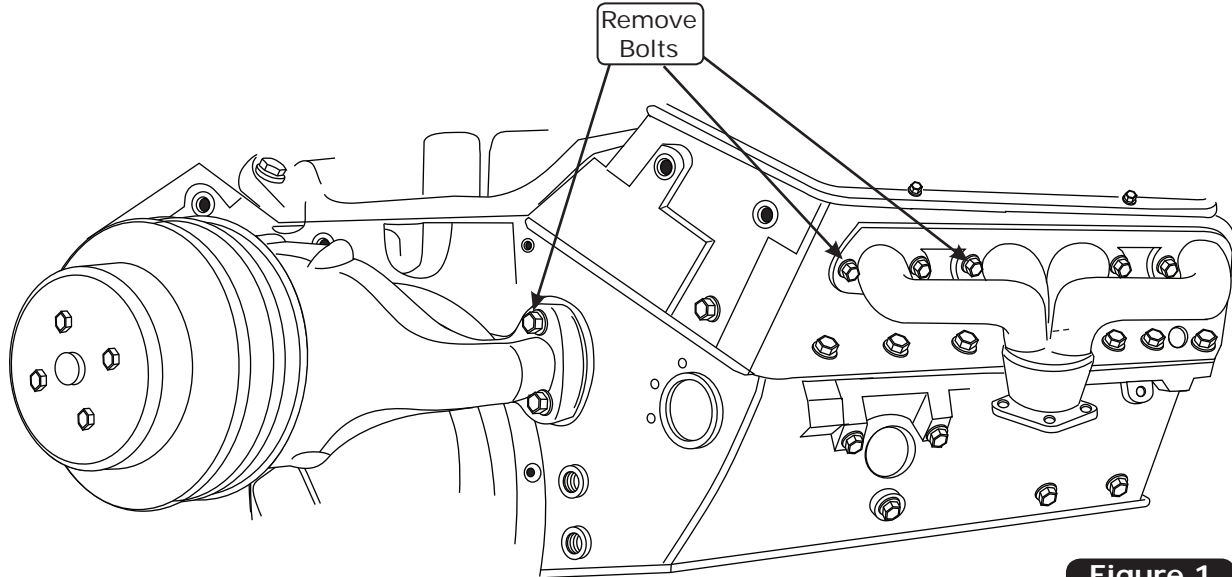

Figure 1
1. Remove the driver side top water pump mounting bolt (discard) as shown in Figure 1, below.
2. Remove the 1st and 3rd driver side header bolts (discard) as shown in Figure 1, below.